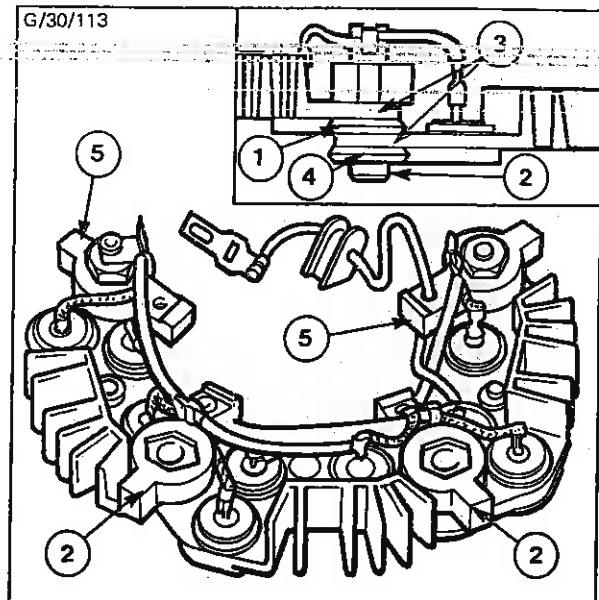

Fig. 74 - Assembling New Seat Sink
3. Remove the two heat sink securing screws (3) and spring and plain washers. Withdraw complete heat sink assembly (4) and take out the insulating strip (5).
5. Assemble the new heat sink in position (see parts list for identification) so that the complete assembly takes the form shown in Fig. 74. Place a nylon insulating washer (1) on each locator (2) so that they are interposed between adjacent heat sinks (3) as illustrated. Replace outside nylon retaining washers (4) on both locators (2) and on main terminal locators (5).